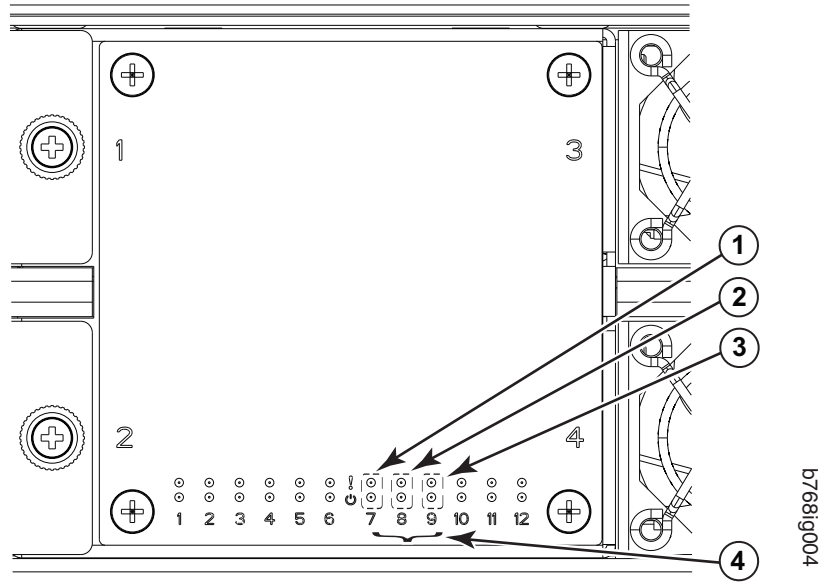

Figure 28. LEDs on the WWN card and bezel
2. Check the LED indicators on the WWN bezel and verify that they reflect the actual status of the components. The WWN bezel covers the WWN cards and allows the LEDs to shine through (see Figure 28 on page 79). The LEDs on the WWN bezel provide a consolidated view of the port, CP, and CR blade status (see Table 13).